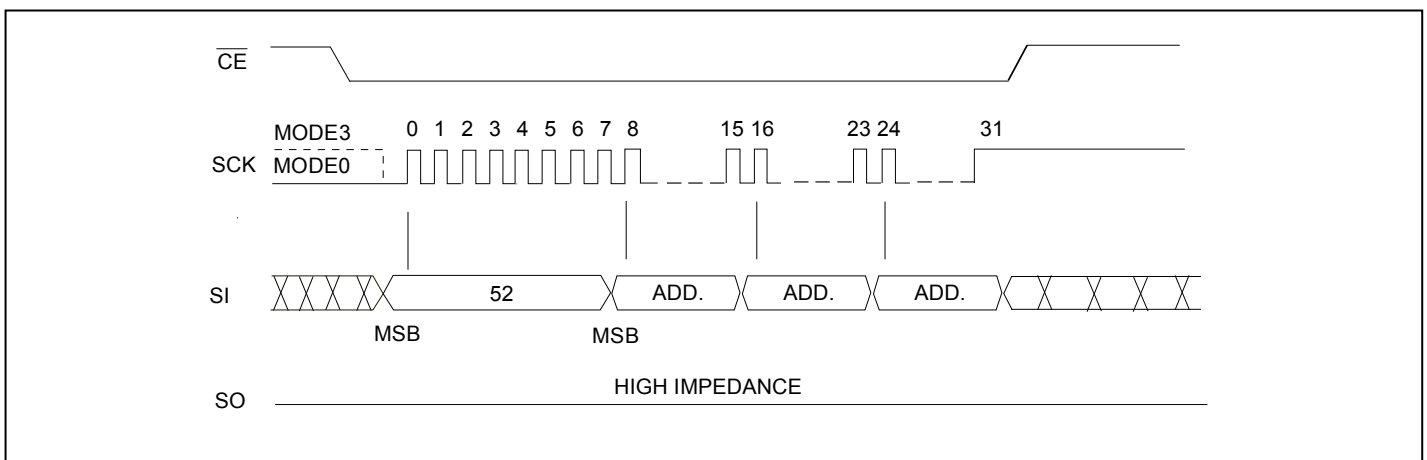

Figure 14: 32K-byte Block Erase Sequence
-A0]. Address bits [AMS-A15] (AMS = Most Significant address) are used to determine the block address (BAx), remaining address bits can be VIL or VIH.  $\overline{CE}$  must be driven high before the instruction is executed. The user may poll the BUSY bit in the Software Status Register or wait TBE for the completion of the internal self-timed Block Erase cycle. See Figure 14 for 32K Byte Block Erase sequence.